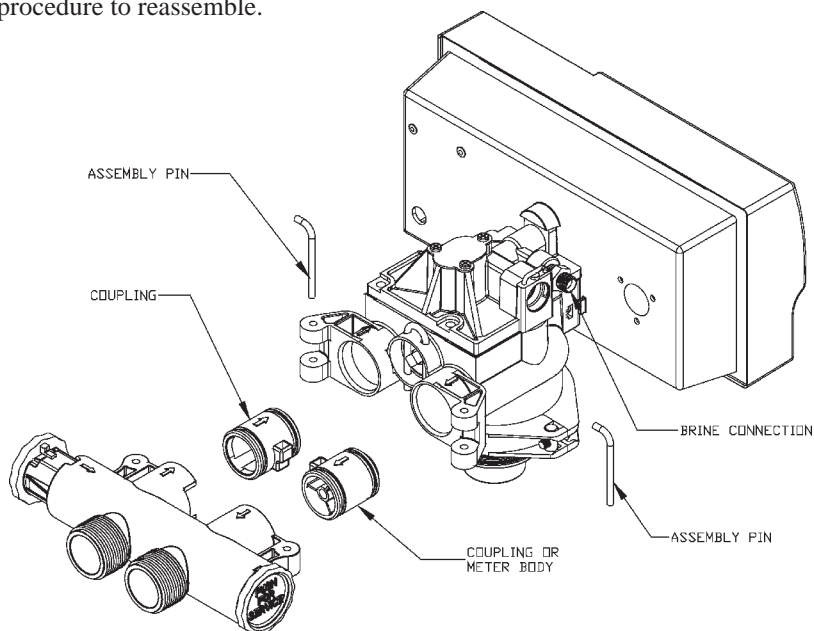
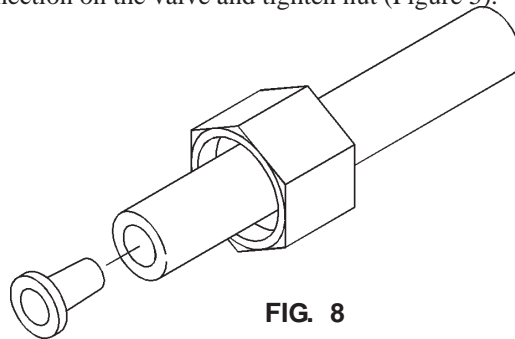

FIG. 5
FIG. 8
The bypass valve connects directly to the control valve with a pair of couplings and two assembly pins (Figure 5). Lubricate all o-rings on the couplings with silicone lubricant.
On Soft-Minder[®] meter controls, the meter replaces the coupling on the outlet side of the control. The meter body fits in the same space as the coupling between the control valve and the bypass. Make sure that the arrow on the flow meter is pointing in the direction of flow (Figure 5).
Refer to Figures 5 & 8.
- Slip the white nut over one end of the tubing and press the plastic insert into the end of the tubing (Figure 8). Connect to the brine valve and tighten nut.
- Slip the white nut over one end of the tubing and press the plastic insert into the end of the tubing (Figure 8). Connect to the brine connection on the valve and tighten nut (Figure 5).